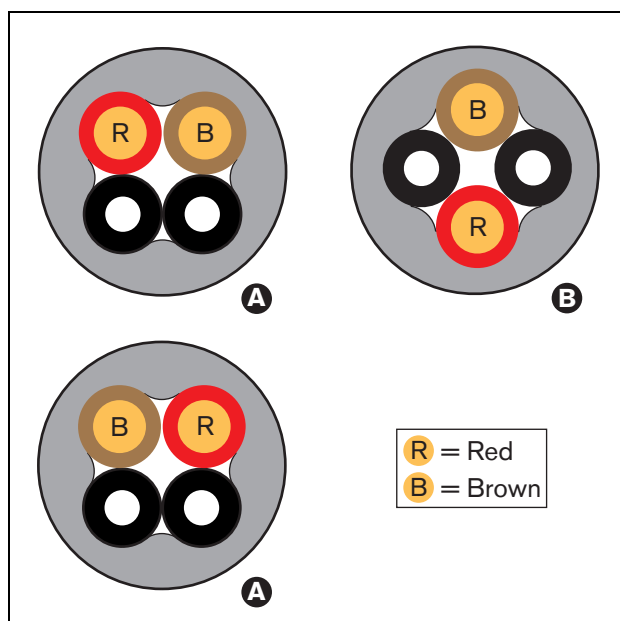

figure 3.1: Cable types
- Type A cables in which the plastic optical fibers are located next to each other (see figure 3.1, which shows both cable ends).
- Type B cables in which the plastic optical fibers are located opposite to each other (see figure 3.1, both cable ends are identical).